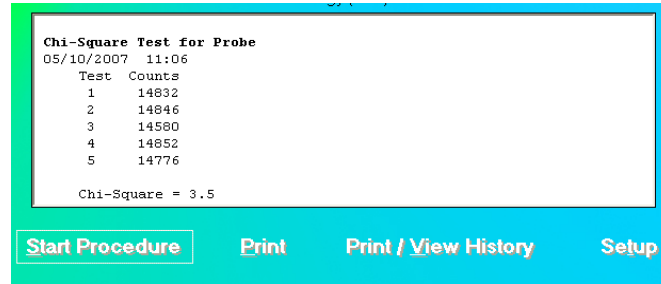

Figure 5-20
10. After the test is completed, the results of the test appear in the box below as shown in Figure 5-20. Note the Chi-Square value.